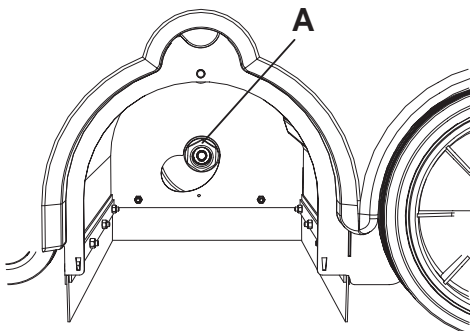
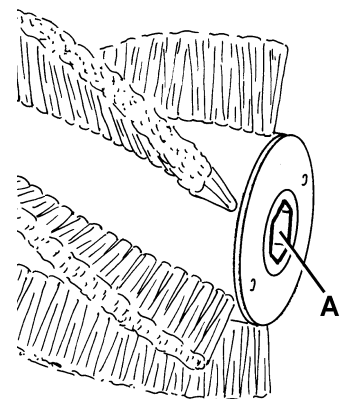

Figure 8
Figure 10
9. Check that the drive hub (A, Fig. 8) is free from dirt or foreign materials (ropes, rags, etc.) accidentally rolled up.
11. Install the new main broom and ensure that the mesh (A, Fig. 10) correctly fits into the relevant drive hub (A, Fig. 8).